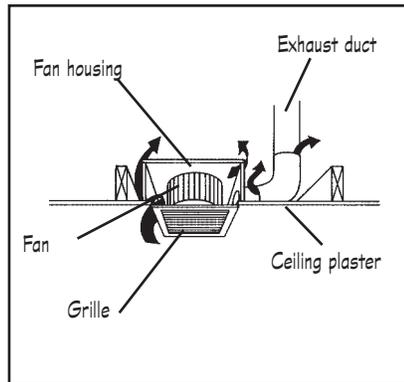

Figure 19
**Fan mounted to ceiling below attic:** The metal box that encloses an exhaust fan is usually not airtight, and there is usually a gap between the box and ceiling. (Figure 19) To repair, use duct tape or caulk to seal gaps in the metal box and